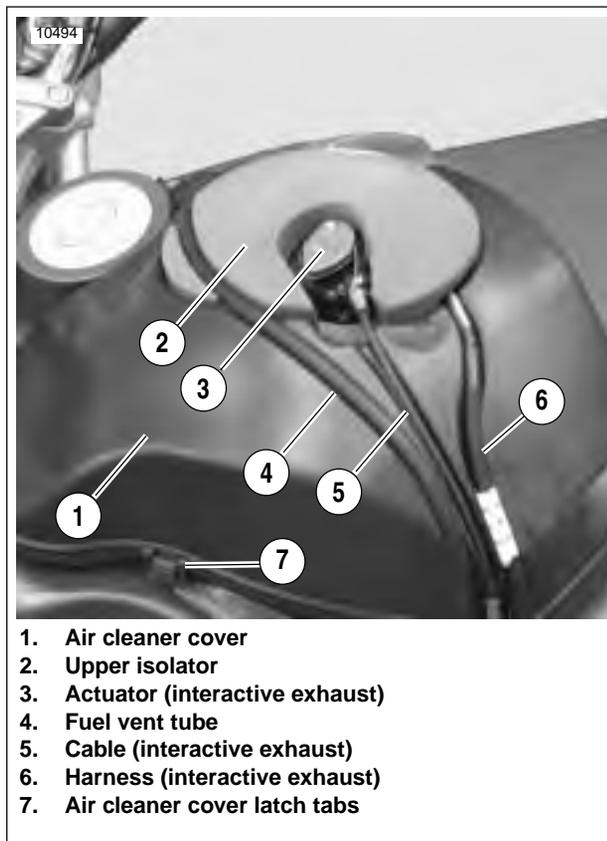

Figure 1-38. Air Cleaner Cover, Fuel Vent Tube and Fuel Vapor Valve (XB12)
3. See Figure 1-38. Remove fuel vent tube (4) from vapor valve at front of air cleaner cover and groove on top of air cleaner cover (1).
4. Remove upper isolator (2) and actuator (3) along with cable (5) and harness (6) from top of air cleaner cover and lay to one side.
5. See Figure 1-38. Unlatch six latching tabs (7) and remove air cleaner cover from base plate.
2. See Figure 1-38. Position air cleaner cover (1) over base plate. Make sure air filter remains correctly positioned.
3. Install air cleaner cover by latching six latch tabs (4) to base plate.
5. Position fuel vent tube (2) in groove on top of air cleaner cover and connect to fuel vent valve (3). Secure vent tube to vent valve with **new** cable strap.